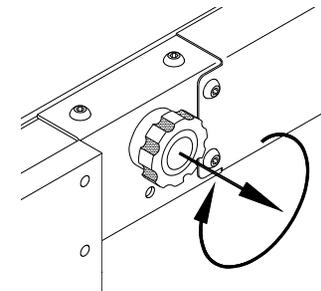

FIGURE 2-18: CLOCKWISE CLOSES ROLLSTOP
- 3) Refer to **Figure 2-18**. Verify that rollstop is closed (fully up). Pull rollstop control knob out and rotate clockwise, if it isn't up.